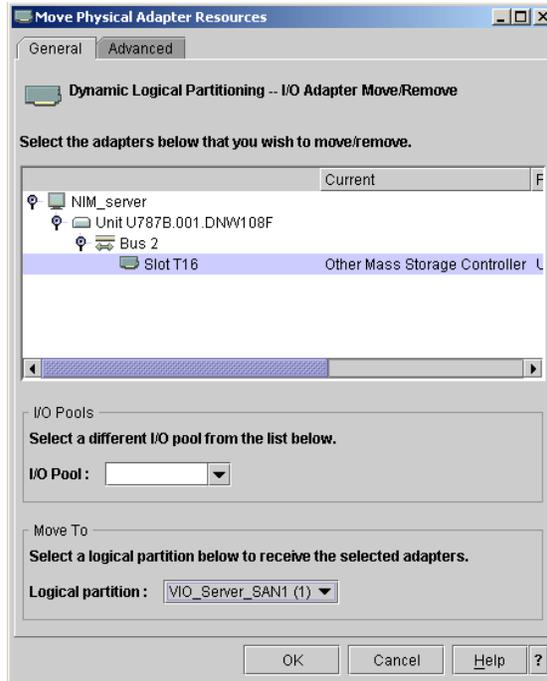

Figure 5-7 Selecting adapter T16 to be moved to partition VIO\_Server\_SAN1
2. Select the adapter to be moved and the receiving partition, as shown in Figure 5-7.